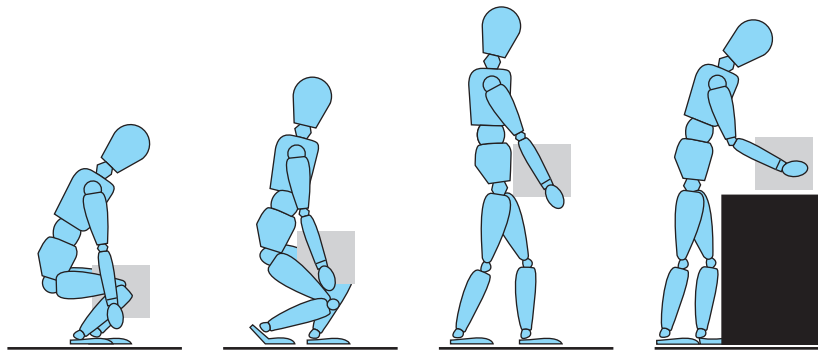

FIGURE 3.2
- carry the load close to the body (Fig. 3.2).